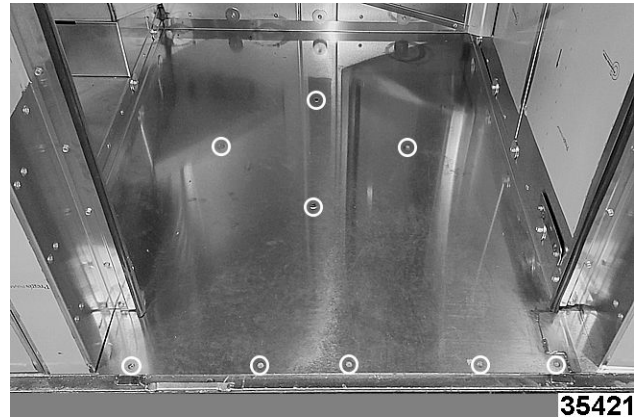

Fig. 57
4. Anchor oven floor (9 places total) to facility floor (Fig. 57).